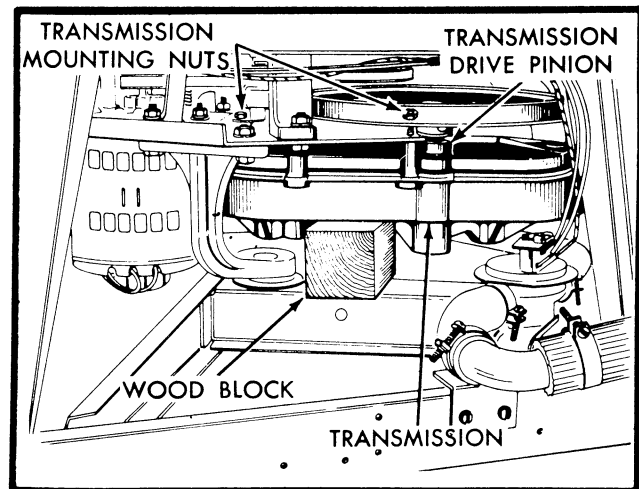

Figure 121
4. Block up transmission as illustrated in *Figure 121*.
5. Remove the four nuts and washers securing the transmission to the mounting plate. Refer to *Figure 121*